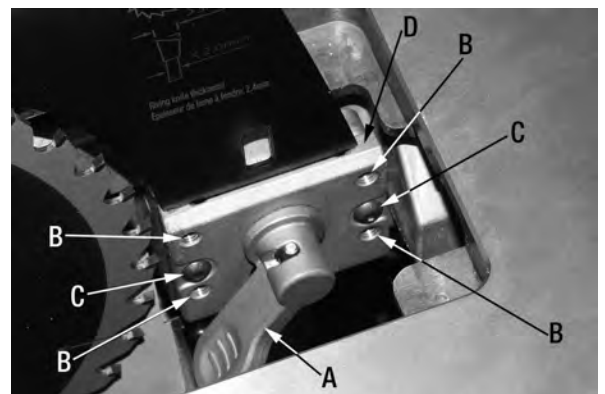

FIGURE 32
- 1) Lift riving knife lever (A) Fig.32 and remove the riving knife, making note as to which direction riving knife needs to be moved to align it with the blade.
- 2) Using a 3mm hex. key, adjust the 4 set screws (B) Fig.32. Adjust any of the set screws required to bring riving knife in alignment with saw blade.
- 3) Reinsert and secure riving knife by lowering riving knife lever (A) and check alignment.
- 3) Use 3mm hex. key to loosen two pan head allen screws (C) Fig.32. This will allow the clamp plate (D) to slide back and forth on the fixed base. Slide clamp plate (D) toward or away from saw blade as required. Attempt to make the gaps as even as possible.
- 4) Retighten two pan head allen screws (C).
- 5) Reinstall riving knife, engage riving knife lever (A) and check that saw blade/riving knife gap is between 3 to 8mm.